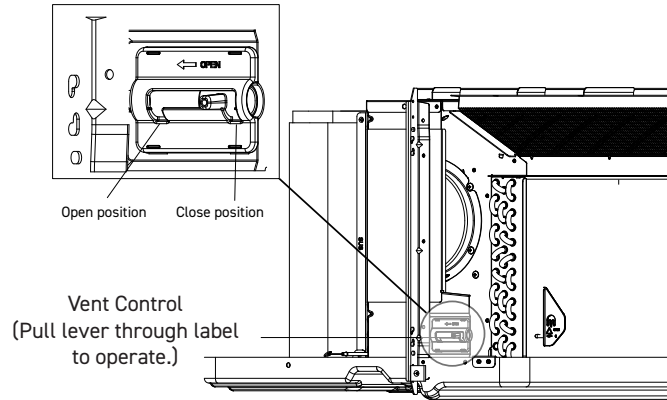

Figure 301 (Ventilation Control Location)
2. Remove louver screws that hold louver insert in place (from back side of front panel). See Fig. 301